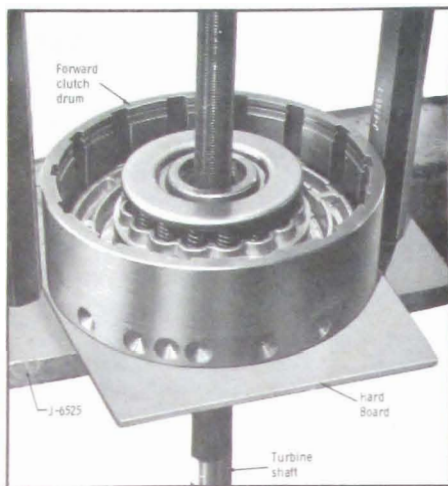

Figure 5-614
5. If necessary remove turbine shaft. See Figure 5-614.